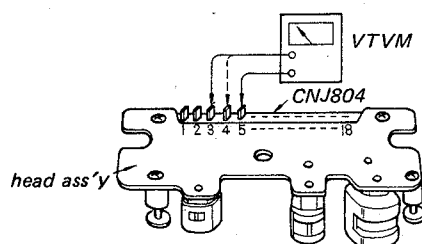

Fig. 3-3-6. Dummy coil adjustment setup
- (1) Pull out the head cover upwards.
- (2) Connect the VTVM across the terminal No. ③ and ⑤ (No. ④ and ⑤) of the head connector (CNJ804) as shown in Fig. 3-3-6.
- (3) Place the unit in stereo-record mode.
- (4) Memorize the VTVM reading.
- (5) Set L-CH (R-CH) only in record mode.
- (6) Adjust Ls03 (Ls04) so that the VTVM reading across the terminal No. ③ and ⑤ (No. ④ and ⑤) is the same as the value obtained in the step (4).